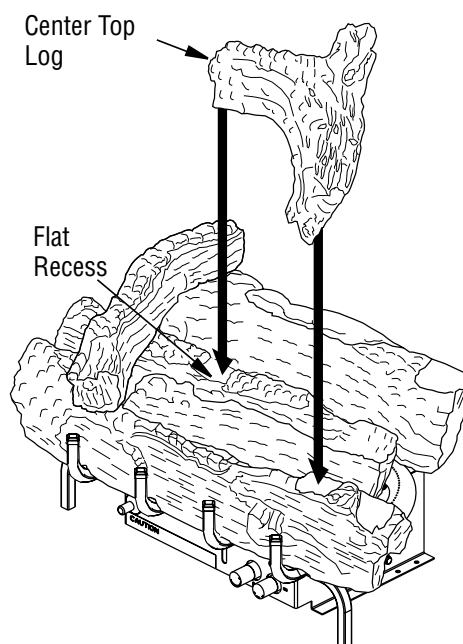

Figure 24 - Installing Center Top Log for 18" Log Set
5. **For 18" log set.** Place center top log as shown in **Figure 24**.